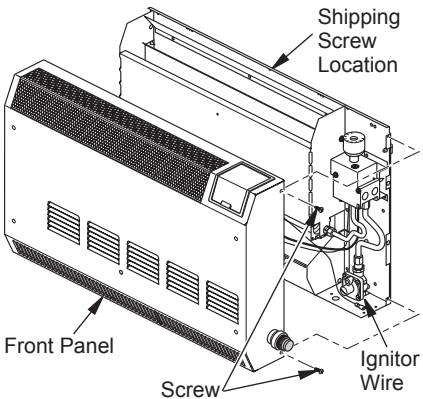

Figure 4 - Removing Front Panel Of Heater
1. Remove and discard shipping screw from back panel of heater (see Figure 4).
- For both ignitors, install ignitor wire only when replacing front panel of heater after connecting to gas supply and checking gas connections (see pages 11 through 13). With bottom of front panel only 2" to 3" (5 to 7.6 cm) away from back panel, reach into lower right corner of heater to connect ignitor wire to ignitor terminal (see Figure 4, page 8).